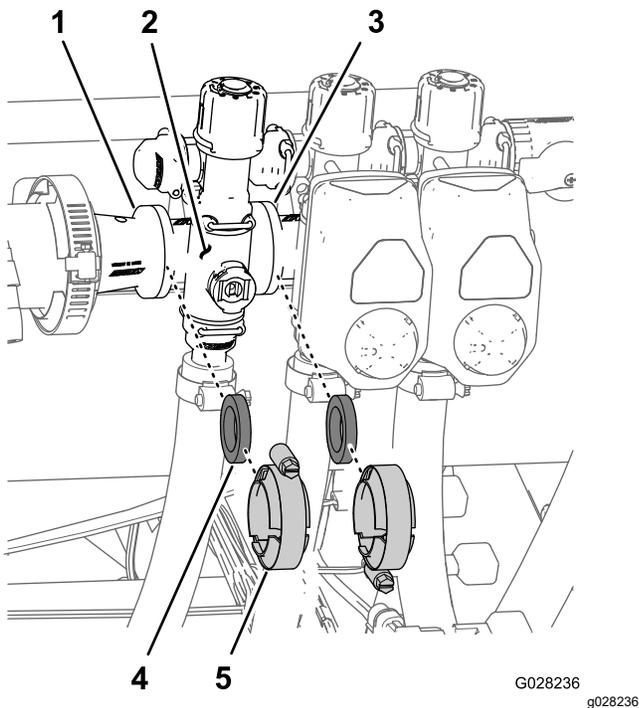

Figure 74
1. Remove clamps and gaskets that secure the manifold for the section valve (Figure 74) to the adjacent section valve (if left section valve, and the reducer coupling).